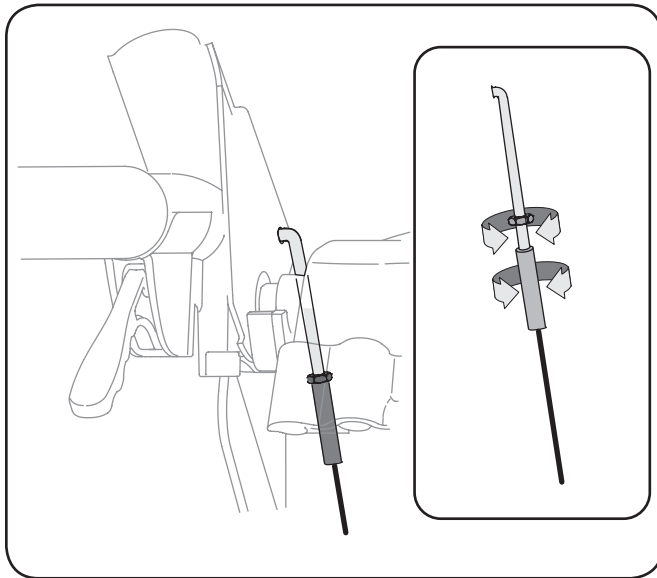

Figure 6-7
3. Thread the ferrule without turning the cable onto the “Z” fitting until there is no slack in the cable. See Figure 6-7. Do not overtighten the cable. Hold the flats on the ferrule with pliers and tighten the jam nut against the ferrule.
5. Retighten the hex jam nut. See Figure 6-7.